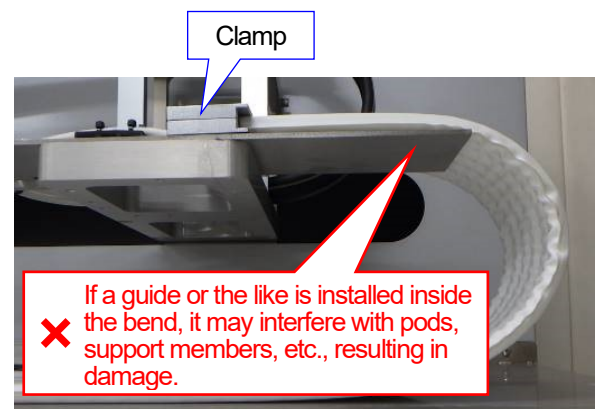

Fig. 3
7. Do not install a guide or the like inside the bend of the moving end or fixed end clamp mounting part. It may interfere with pods, support members, cables, and tubes and cause damage (Fig. 3).